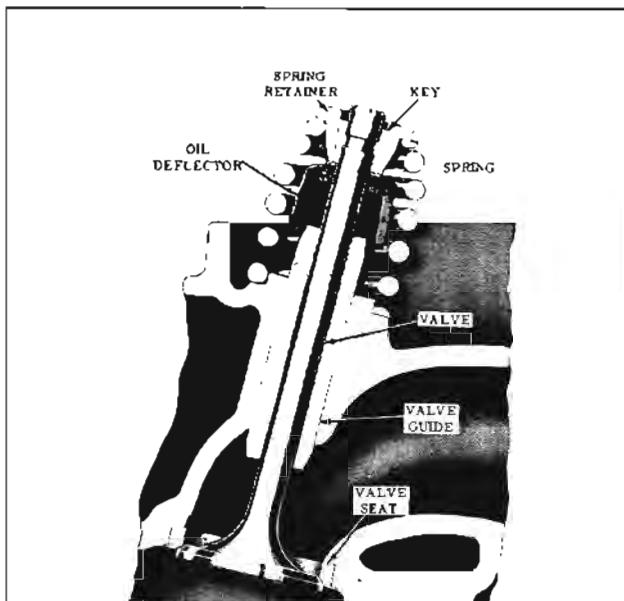

Fig. 8-119 Valve Assembly
3. Remove valve spring retainers and springs. (Fig. 8-119)